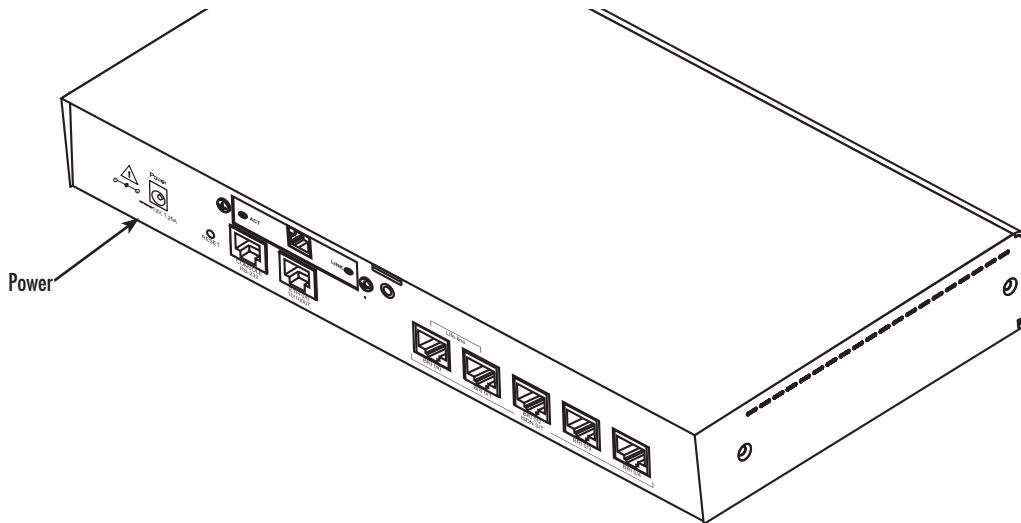

Figure 7. Power connector location on rear panel
1. Insert the barrel type connector end of the AC power adapter into the power supply connector on the SN465x unit (see figure 7).